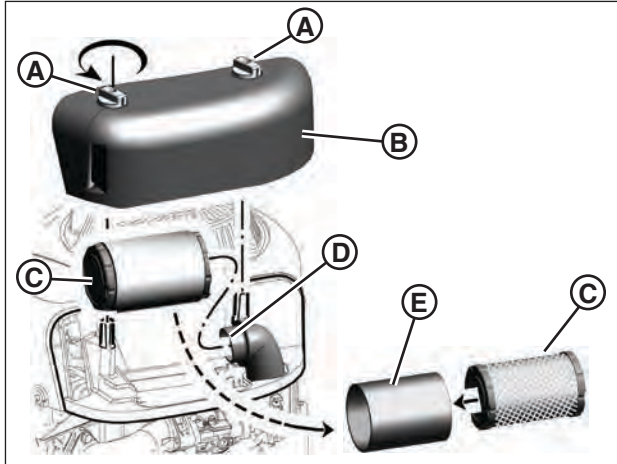

Figure 26: Air filter (cylindrical)
1. Remove the fasteners (A, Figure 26) and the air filter cover (B).
2. To remove the filter (C), lift the end of the filter and then pull the filter off the intake (D).
3. Remove the pre-cleaner (E), if equipped, from the filter.